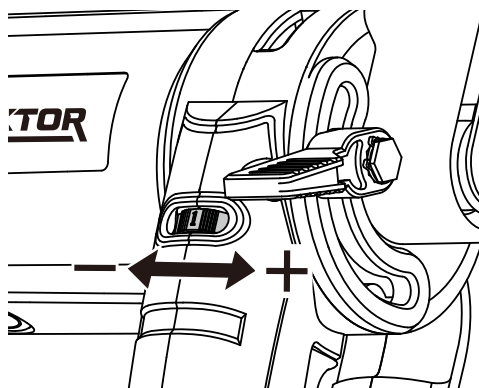

Figure 6
4. VARIABLE SPEED CONTROL (SEE FIG. 6)